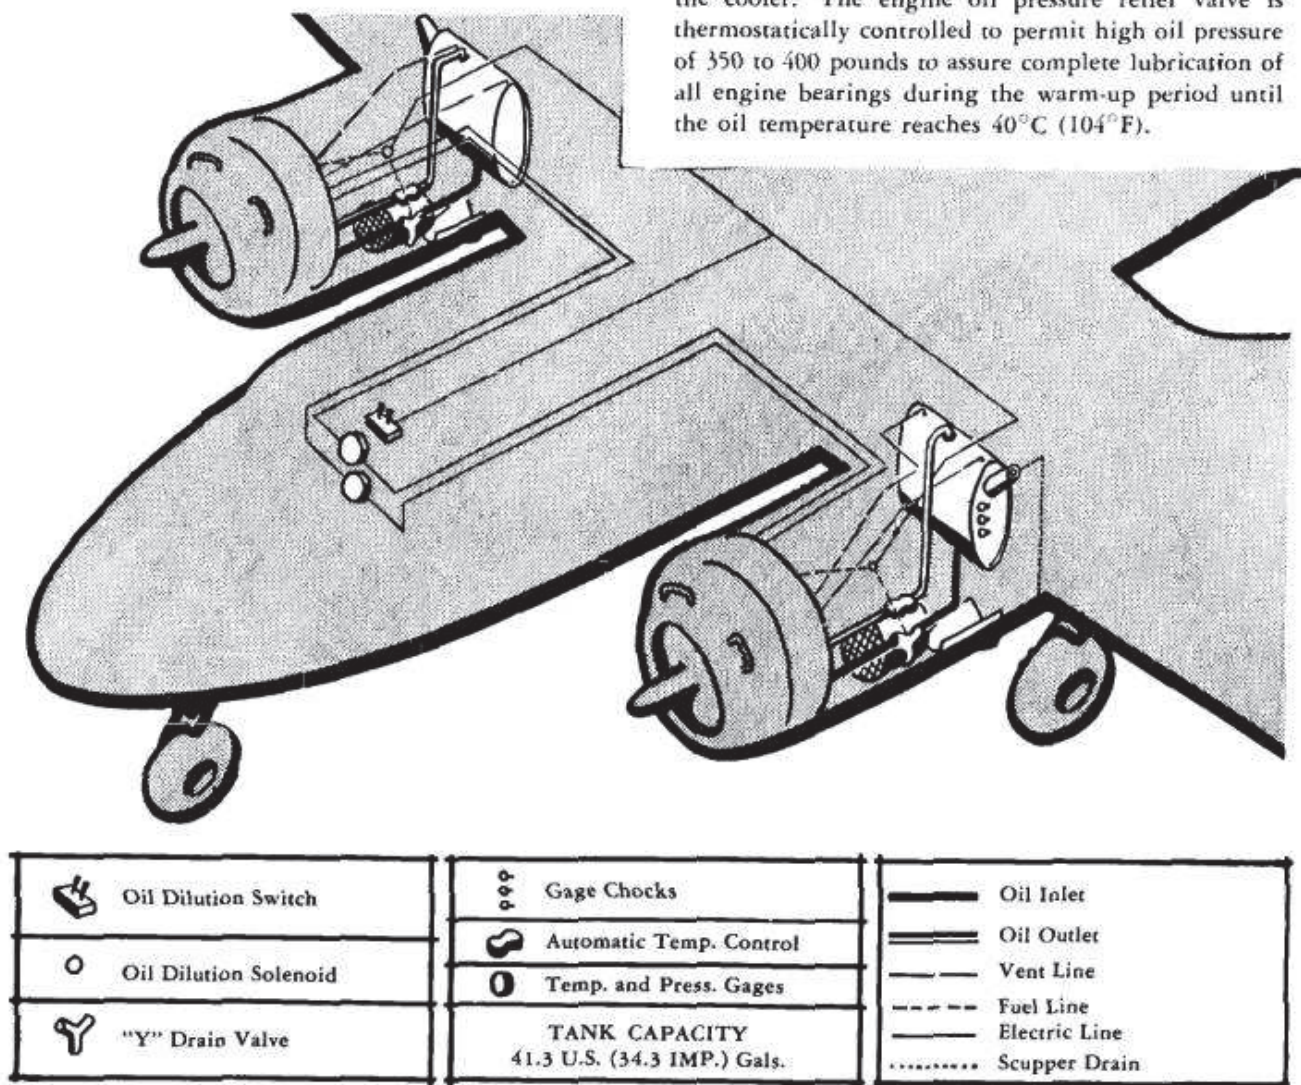

Figure 25 — Oil System Diagram
k. OIL SYSTEM. (See figure 25.)
(1) GENERAL.—A hopper-type oil tank, protected by an envelope of armor plate, is installed just aft of each engine. Built into the welded aluminum alloy tank is a filler neck with a scupper drain. Two vent lines extend from the tops of the tanks to the engines. Oil level is checked by means of gage cocks on each tank. Oil is drawn from the tank outlet to the engine through a "Y" drain valve by a pressure pump built into the engine. The scavenger pump, also incorporated in the engine, returns the oil to the tank inlet through a temperature relief valve and a 14-inch oil cooler. A hydraulically operated oil cooler shutter is built into the outlet duct from the oil cooler. Oil